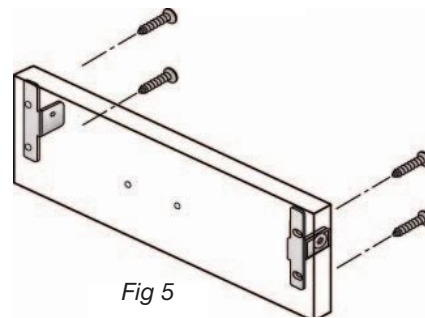

Fig 5
8. Fasten connectors to drawer face using two provided #8 x 1/2" pan head screws for each connector. (See Fig. 5.)